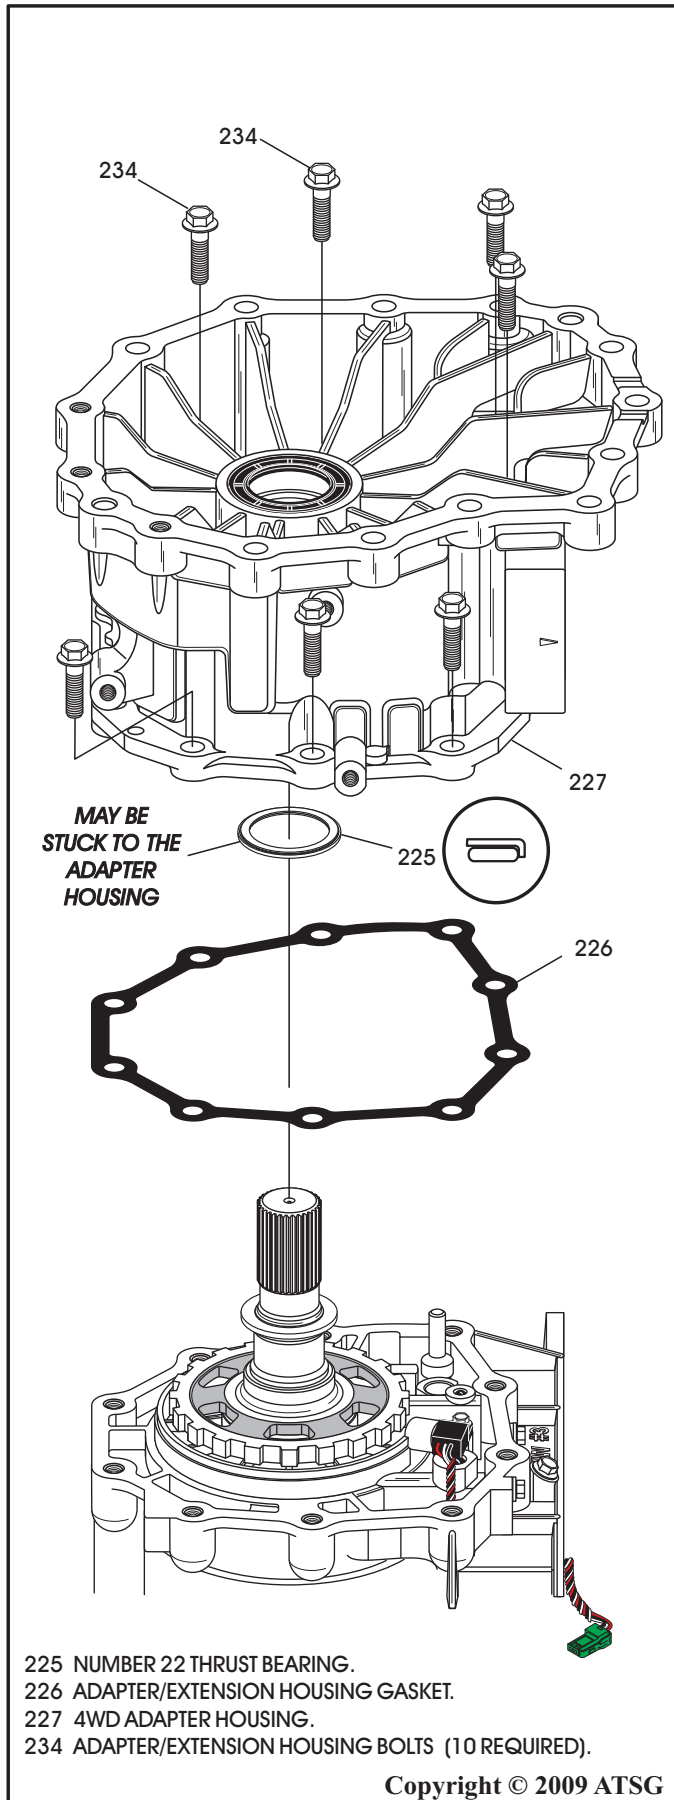

Figure 54
45. Remove the extension housing or 4WD adapter housing retaining bolts, as shown in Figure 54.
Note: There are 10 required, and on the 4WD adapter housing 4 are located down inside, as shown in Figure 54.
46. Remove the extension housing or 4WD adapter housing, as shown in Figure 54.
Note: Number 22 thrust bearing may be stuck to adapter housing (See Figure 54)